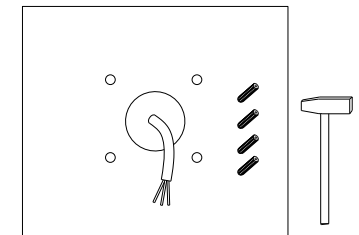

Figure 2
2. Fix rubber plugs into holes. (Figure 2)